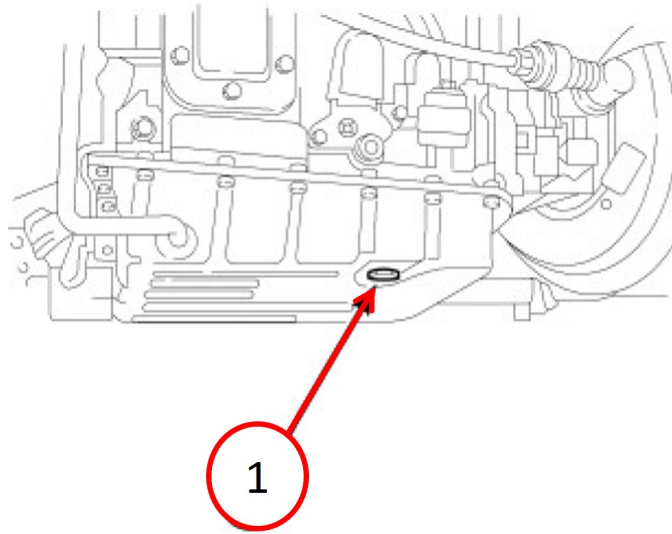

Fig. 1
4. Remove oil pan drain plug Fig. 1 and drain fluid from transmission pan. **DISCARD** the drain plug gasket.